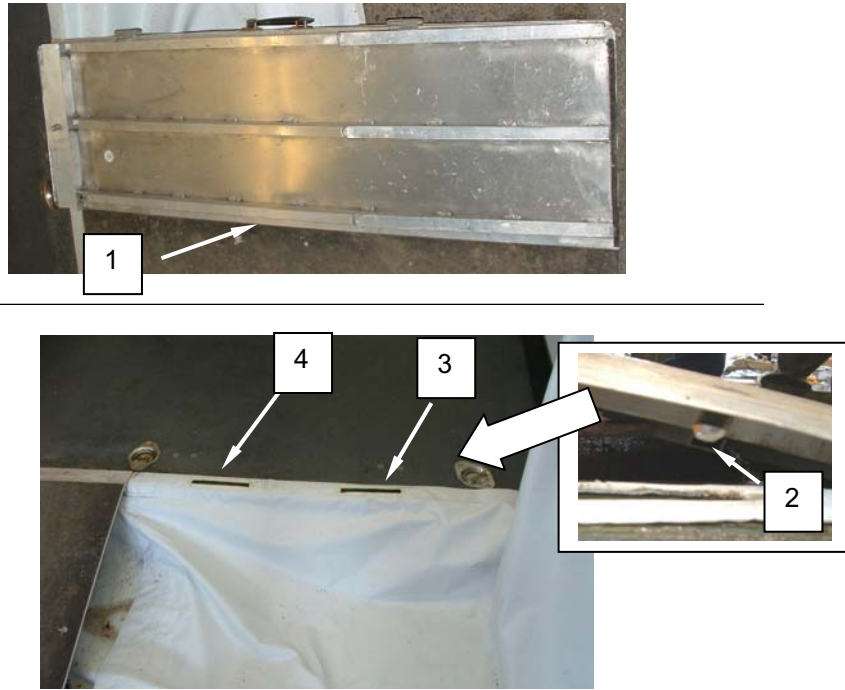

Figure 1. Prepare Ramps for Use.
1. Remove the two ramp sections (**Figure 1, Item 1**) from their stowage area within the interior of CBL.
2. Place the first ramp section in place at the left side of the entrance to the CBL by unfolding the ramp and inserting the two pins (**Figure 1, Item 2**) on the underside of the ramp into the first two holes (**Figure 1, Item 3**) at the left side of the container entrance.
3. Place the second ramp section in position at the right side of the entrance to the CBL by unfolding the ramp and inserting the two pins (**Figure 1, Item 2**) on the underside of the ramp into the second pair of holes (**Figure 1, Item 4**) located at the right side of the container entrance.